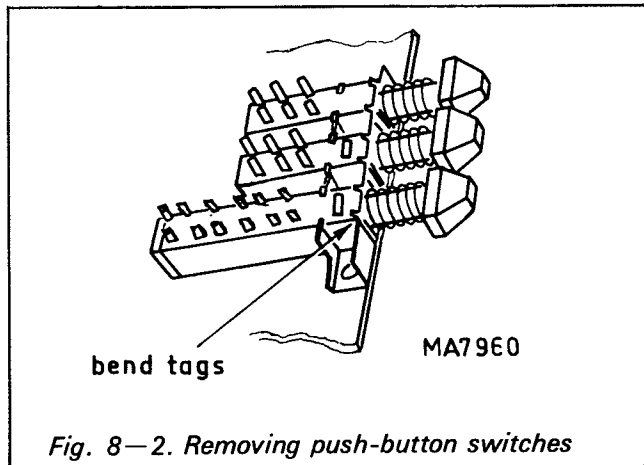

Fig. 8-2. Removing push-button switches
2. Slightly bend 4 tags securing switch to rail (Fig. 8-2)